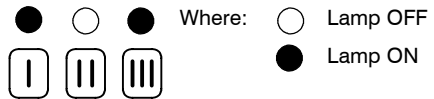

Fig. 8.3
- 12 Press the reset button 6 repeatedly (4 times) until the lamps 9 give the indication as in Fig. 8.3 (gas type mode).